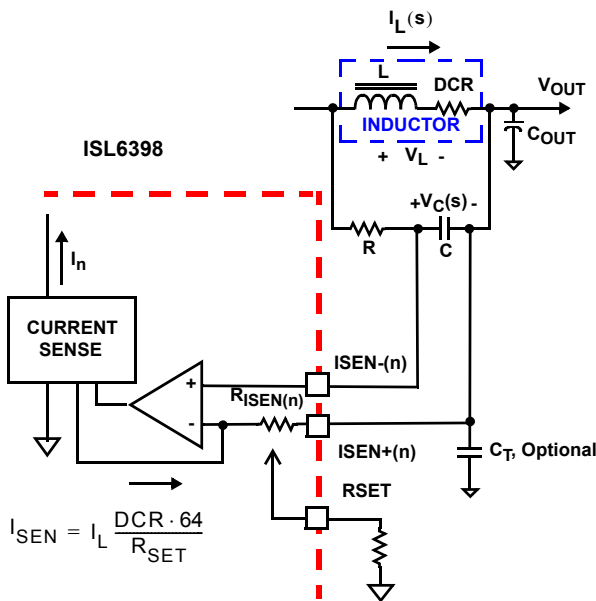

FIGURE 4. DCR SENSING CONFIGURATION
The internal circuitry, shown in Figures 4 and 5, represents one channel of the VR output, respectively. The ISEN± circuitry is repeated for each channel, but may not be active depending on the status of the PWM[6:2] pins, as described in “PWM Operation” on page 17. The input bias current of the current sensing amplifier is typically 25nA; less than 8kΩ input impedance is preferred to minimized the offset error, i.e., a larger C value as needed.
An inductor’s winding is characteristic of a distributed resistance, as measured by the Direct Current Resistance (DCR) parameter. Consider the inductor DCR as a separate lumped quantity, as shown in Figure 4. The channel current I_L , flowing through the inductor, will also pass through the DCR. Equation 4 shows the S-domain equivalent voltage across the inductor V_L .
A simple R-C network across the inductor extracts the DCR voltage, as shown in Figure 4.
The current sense circuitry operates in a very similar manner for negative current feedback, where inductor current is flowing from the output of the regulator to the PHASE node, opposite of flow pictured in Figures 4 and 5. However, the range of proper operation with negative current sensing has a limitation. The worst-case peak-to-peak inductor ripple current should be kept less than 80% of the OCP trip point ($\sim 80\mu A$). Care should be taken to avoid operation with negative current feedback exceeding this threshold, as this may lead to momentary loss of current balance between phases and disruption of normal circuit operation. Note that the negative current can especially affect coupled inductor designs, where the effective inductance is the leakage between the two channels, much lower than the specified mutual inductance (LM) and self inductance (L). To limit the impact, a higher R_{SET} value ($1.5x$ to $2x$) is often used to reduce the effective negative current seen by the controller in coupled inductor designs.